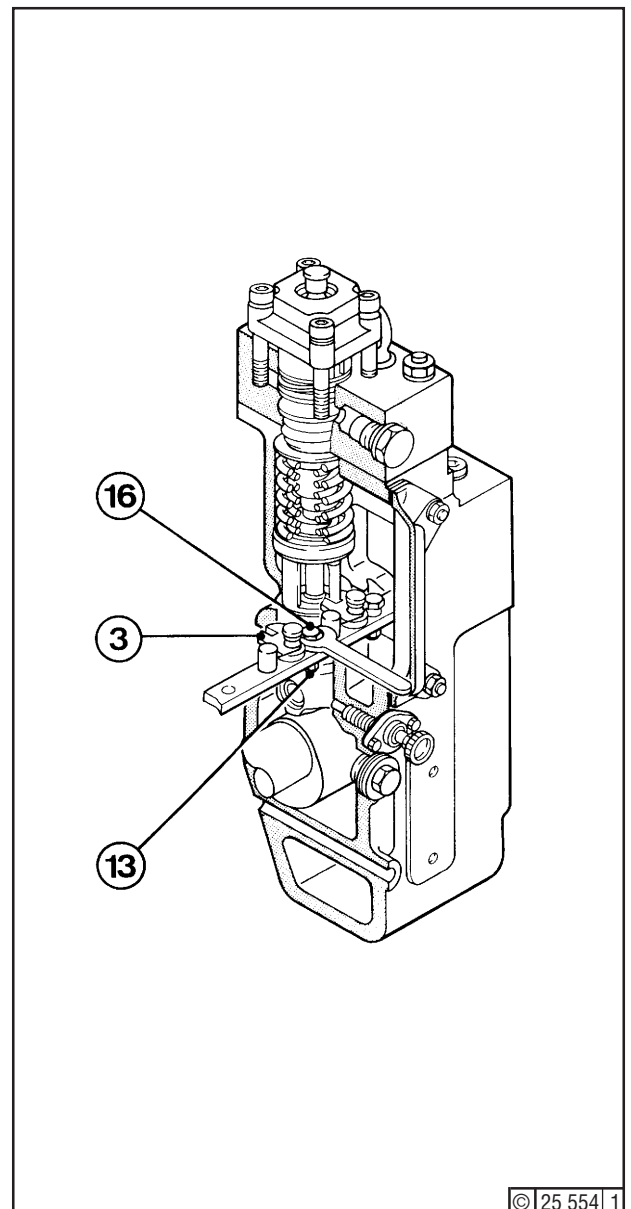

Fig. 1
Check thermocouples as per Job Card 11.01.05. Slacken locknut (13) - Fig. 1. By means of guide (16) - eccentric - adjust lug (3) so that it is positioned at an angle of 90° relative to the control rod. Tighten locknut.